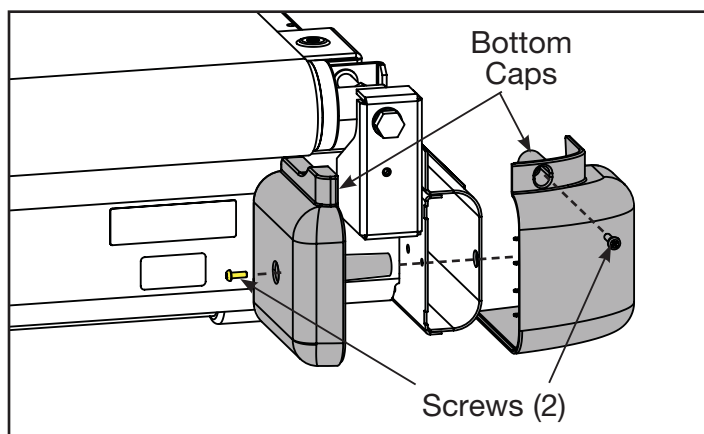

Figure 6
- A. Using a Phillips head screwdriver, remove the two screws securing each of the bottom caps to the frame See Figure 6.
- A. Using a Phillips head screwdriver, secure the two screws securing each of the bottom caps to the frame See Figure 6.